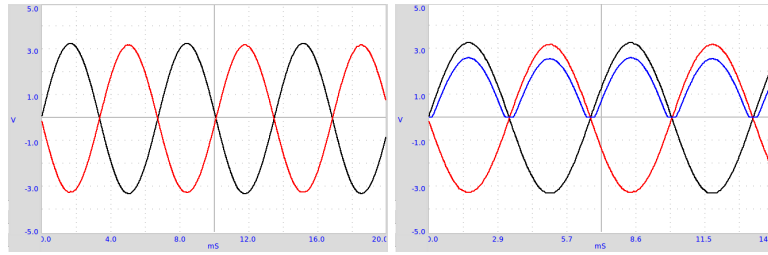

Figure 4.2: (a) Inverting Amplifier making 180° out of phase sine wave. (b) Fullwave rectifier, two inputs and the output.
**Observation** The result is shown in the figure 4.2. The amplitudes are not exactly equal. The gain is given by  $G = \frac{51000}{51000+1000}$ .
**Observation** The result is shown in the figure 4.2. Adding capacitors to reduce the ripple is left as an exercise to the user. This experiment is only to demonstrate the working of a full wave rectifier, it cannot provide more than few milli amperes of current.